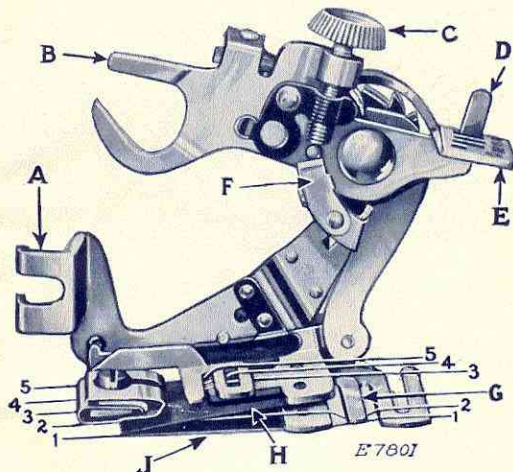
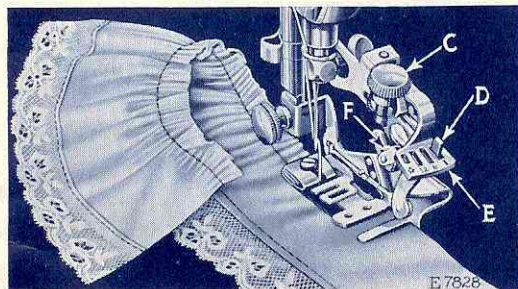
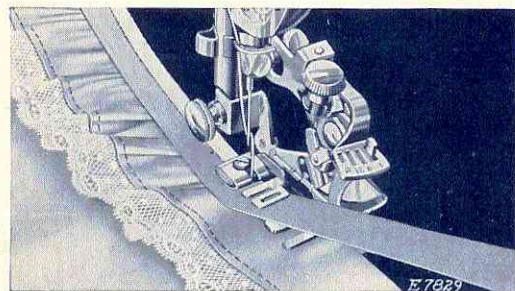
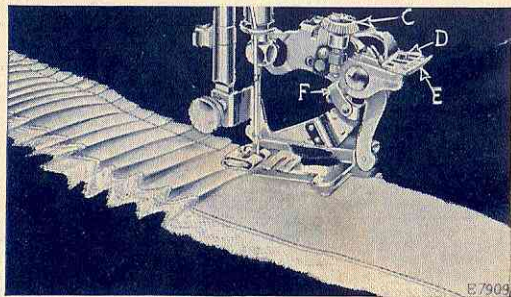

FIG. 26. THE RUFFLER AND ITS PARTS
FIG. 27
FIG. 29
Fig. 31
Lines 1, 2, 3, 4 and 5 shown in Fig. 26 indicate where the material is to be placed for various operations, as follows:
(SEE REFERENCES IN FIG. 26)
Raise the needle bar to its highest point and remove the presser foot. Attach the ruffler foot (A, Fig. 26) to the presser bar by means of the thumb screw, at the same time placing the fork arm (B, Fig. 26) astride the needle clamp as shown in Fig. 27.
The adjusting finger (F, Fig. 27) is not intended for gathering and should be moved forward or away from the needle, as shown in Fig. 27
Raise the adjusting lever (E, Fig. 27) and move it to the left so that the projection (D, Fig. 27) will enter the slot marked "1" in the adjusting lever (E) when the lever is released. The ruffling blade will then move forward and back once at every stitch. Insert the material to be ruffled between the two blue blades, following the line 2 in Fig. 26. Draw the material slightly back of the needle, lower the presser bar and commence to sew.
To make fine gathering, shorten the stroke of the ruffling blade by turning the adjusting screw (C, Fig. 27) upwardly, also shorten the stitch. To make full gathering, lengthen the stroke of the ruffling blade by turning the adjusting screw (C) downwardly, also lengthen the stitch. By varying these adjustments, many pleasing varieties of work can be accomplished.
2, in Fig. 26. Place the garment to which the ruffle is to be attached, under the separator blade, following the line 1, in Fig. 26. Proceed the same as for gathering.
Insert the material to be ruffled between the two blue blades, following the line 2, in Fig. 26. Place the garment to which the ruffle is to be attached, under the separator blade, following the line 1, in Fig. 26. Place the material for the facing over the upper blue blade, as shown in Fig. 29, following the line 3, in Fig. 26. The facing may be straight
Insert the material to be ruffled between the two blue blades, following the line 2, in Fig. 26. This
The material for piping must measure about $\frac{1}{4}$ inch wide when folded in the centre and is usually cut on the bias. Place the piping material in the ruffler, following the line 4, in Fig. 26, with the folded edge of the piping to the right. The material to which the piping and ruffling are to be sewn should be folded on the edge and inserted in the ruffler, following the line 5, in Fig. 26.
Raise the adjusting lever (E, Fig. 31) and move it to the right so that the projection (D, Fig. 31)
will enter the slot marked "6" in the adjusting lever when the lever is released. The ruffling blade will then move forward and back once at every six stitches. To adjust the ruffling blade to make a plait once at every twelve stitches, place the adjusting lever (E, Fig. 31) so that the projection (D) enters the slot marked "12" in the adjusting lever. Insert the material to be plaited between the two blue blades, following the line 2, (Fig. 26). The size or width of plaits is regulated by the adjusting screw
(C, Fig. 31) and the adjusting finger (F, Fig. 31). To make a wider plait, move the adjusting finger (F) back or toward the needle and turn the adjusting screw (C) downwardly. To make a smaller plait, turn the adjusting screw (C) upwardly. The distance between plaits is regulated by the length of stitch.